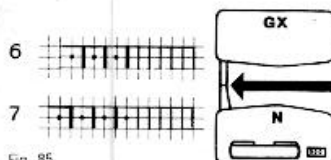

Fig. 85
Increase 6 stitches at both ends, Fig. 85
Needle position for increasing an even number of stitches (6), Fig. 85 above.
Needle position for increasing an odd number of stitches (7), Fig. 85 below.